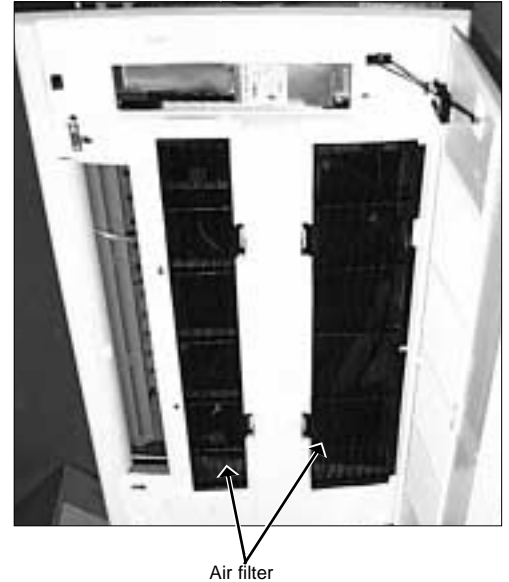

Figure 1
- (1) Press the **PUSH** of the air intake grille.(See figure 1)
- (2) Put your figure on the both end of nut of the air intake grille and put it down after the grille clicked.
- (1) Press the **PUSH** of air intake grille, and pull down the both end of nut with your fingers after the grille clicked. (See figure 1)